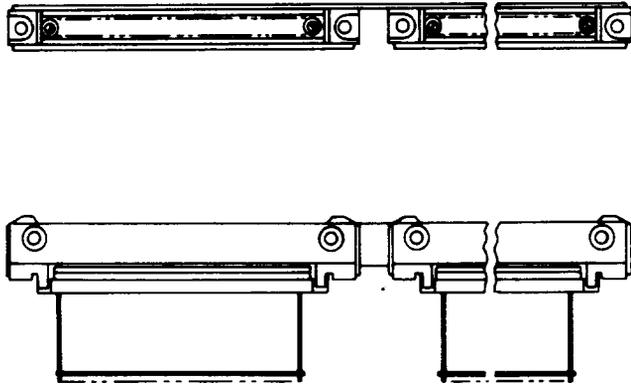

Fig. 20—987A Connector
2.16 **987A:** The 987A connector (Fig. 20) consists of two 985C connectors mounted to a common bracket. The 987A connector contains 164 terminals. The connector is designed with the power and ground terminals lengthened to "make" before all other terminals, and restricted for use only with the 984A and 986A connectors.